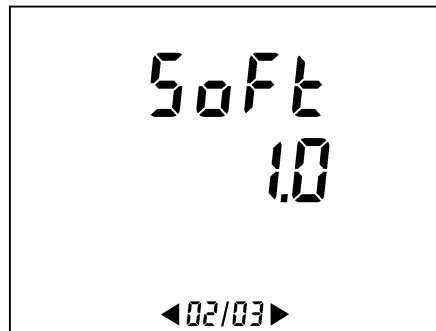

Figure 61: Software version number of embedded software (page 2/3).
- The appliance software version (*Soft* = *Software version*) (Figure 61).